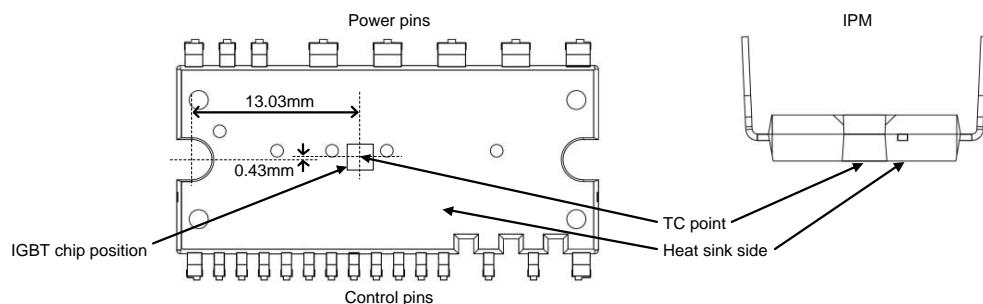

Figure 1. T_c Measurement Point
| T_c | Module Case Operation Temperature | Measurement point of T_c is provided in Figure 1 | -30 to 125 | $^\circ\text{C}$ |
- For the measurement point of case temperature (T_c), please refer to Figure 1.